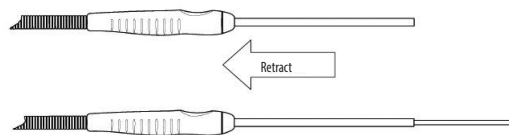

Figure 3: Handle and Rigid Shaft Retraction
9. For a cryoICE device, retract handle and rigid shaft to expose malleable aluminum probe. See Figure 3: Handle and Rigid Shaft Retraction.